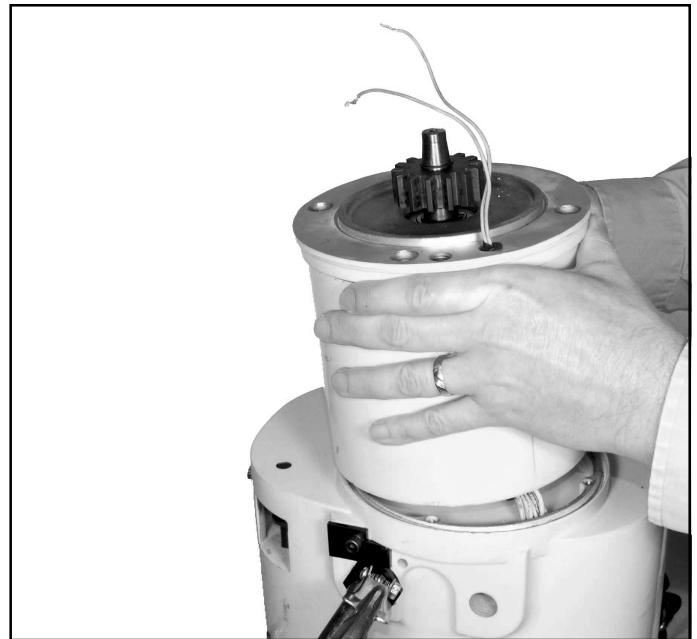

Figure 7-9. Removing Motor Assembly
- (1) Place hoist frame on wood blocks to protect integral gear on motor shaft. Loosen four motor mounting bolts and lift motor assembly from frame (fig. 7-9). Guide motor leads through wire passage to avoid damage.